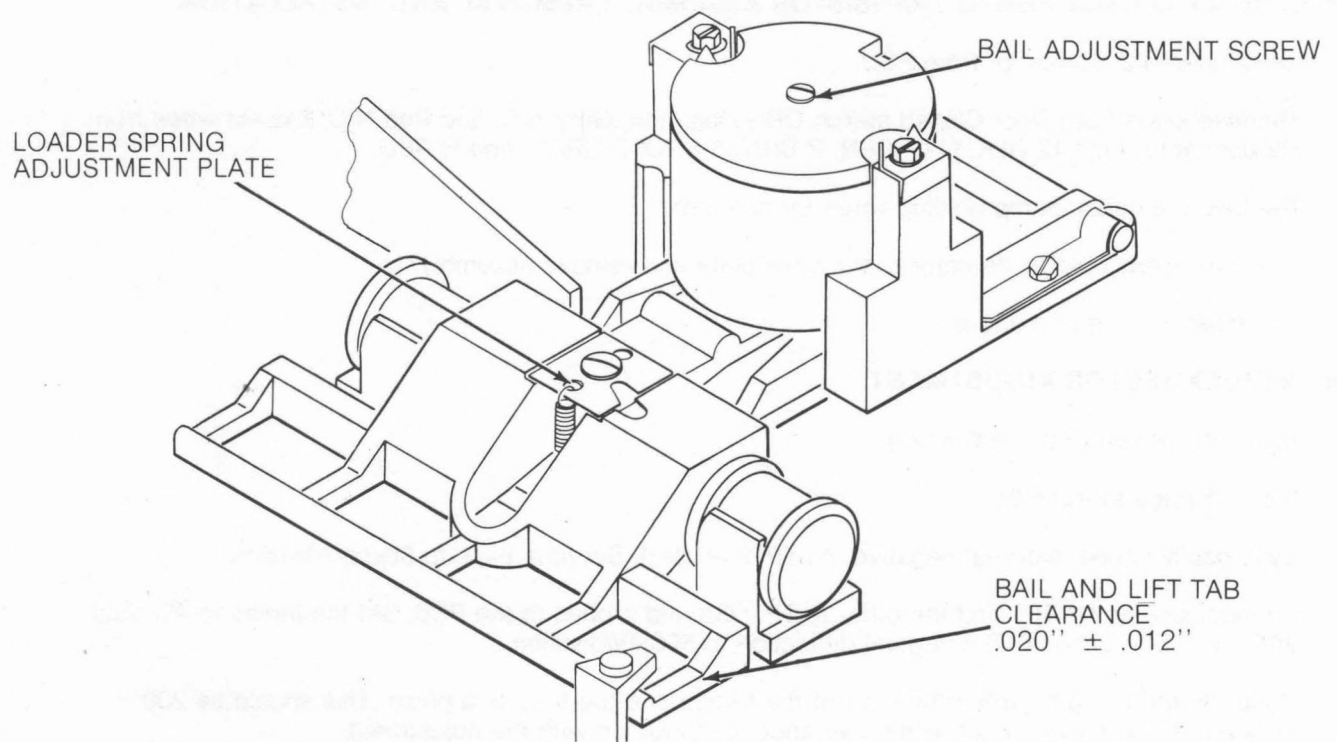

FIGURE 36. HEAD LOAD MECHANISM ADJUSTMENT
- b. Select the drive and insure the head is loading. With the head loaded a clearance of .008" + .005" - .000" should be obtained between the bail on the head load solenoid and the lift tab on the head arm (see Figure 36). To adjust this clearance turn the screw located on top of the armature (see Figure 36). Clockwise will decrease the clearance and counter-clockwise will increase the clearance.
- (3) If the read signal begins sooner than 35 msec loosen screw holding the loader spring adjustment plate. Slide plate towards the solenoid body (see Figure 36). If the read signal begins after 50 msec, slide the plate away from the solenoid body.